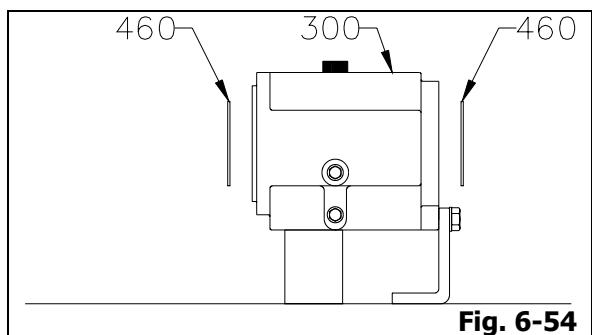

Fig. 6-54
12. Remove cir clip(s) (460) from bearing frame (300). For open type impeller, cir clip (460) only available on pump end side (Fig. 6-54).